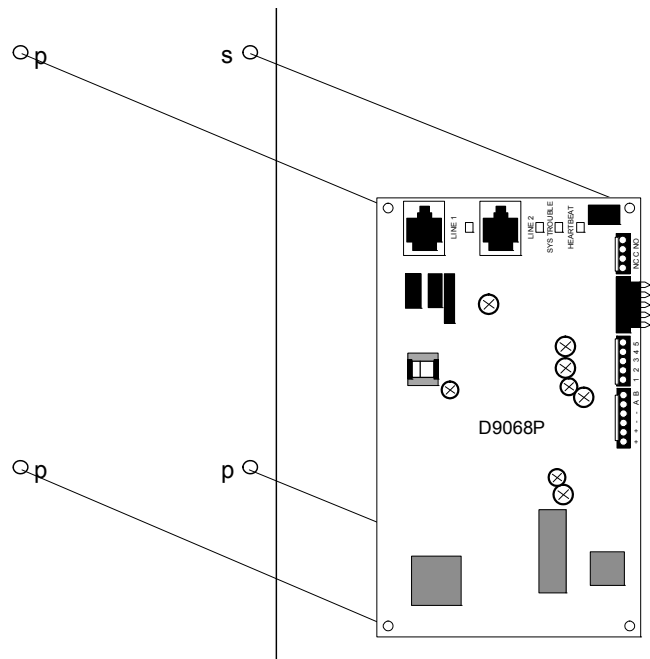

Figure 33 - D9068P Mounting
The D9068P is mounted on the left sidewall of the enclosure back box. On the upper left sidewall of the back box are three (3) PC board push snap-on standoffs [p] and one (1) screw standoff. Push the D9068P onto the three (3) push snap-on standoffs [p]. Utilizing the provided screw, secure the D9068P to the screw standoff [s] (see figure 33).